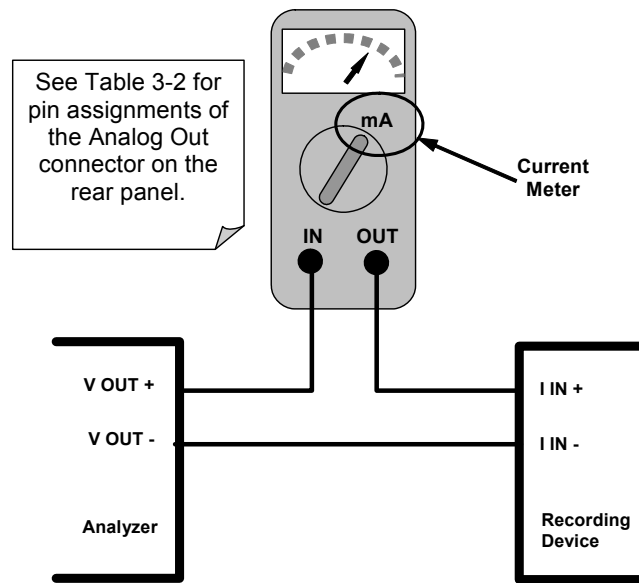

Figure 6-15: Setup for Calibrating Current Outputs
- In this case calibration is performed with a current meter connected in series with the output circuitry (See Figure 6-15).